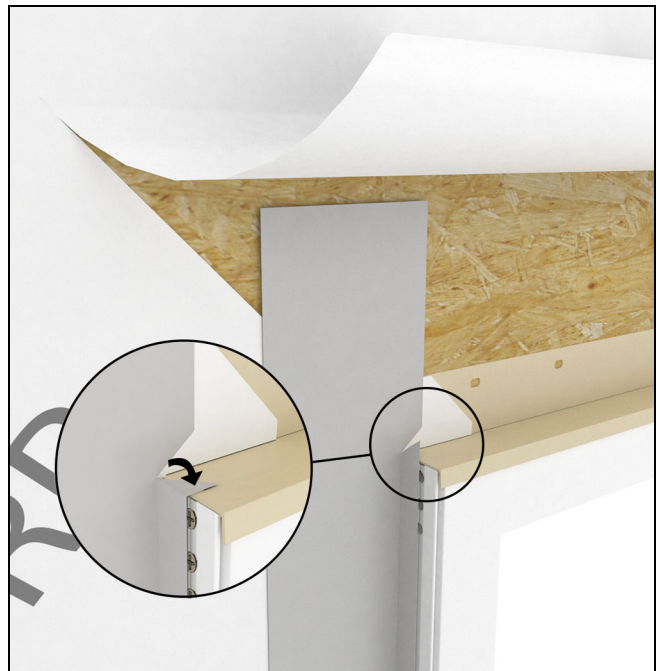

Figure 62
5. Make small cuts at the head jamb to allow the membrane to fold back onto the sheathing. See Figure 62.